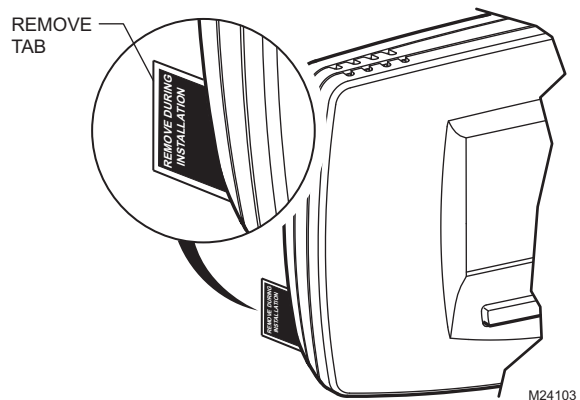

Fig. 23. Remove tab labeled REMOVE from thermostat back.
2. Locate and remove tab labeled Remove. See Fig. 23.